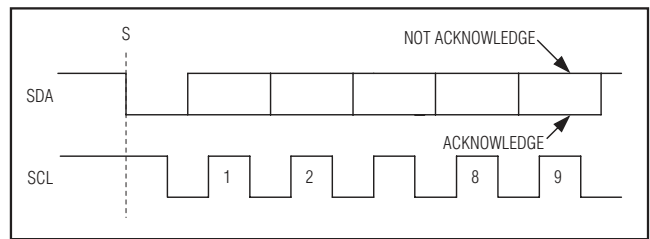

Figure 6. Acknowledge Bits
Successful data transfers are acknowledged with an acknowledge bit (A) or a not-acknowledge bit ( $\bar{A}$ ). Both the master and the MAX1036–MAX1039 (slave) generate acknowledge bits. To generate an “acknowledge,” the receiving device must pull SDA low before the rising edge of the acknowledge related clock pulse (ninth pulse) and keep it low during the high period of the clock pulse (Figure 6). To generate a “not acknowledge,” the receiver allows SDA to be pulled high before the rising edge of the acknowledge related clock pulse and leaves it high during the high period of the clock pulse.